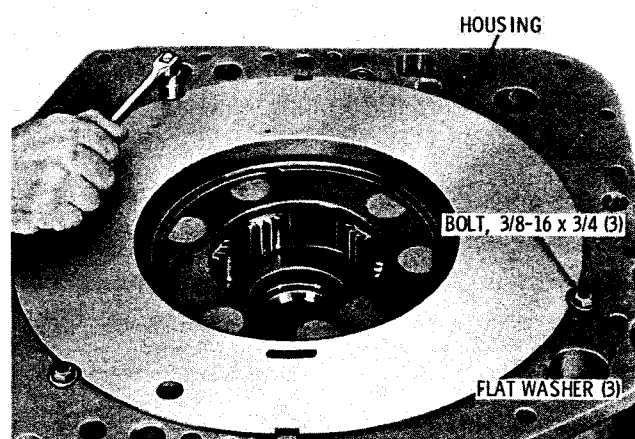

Fig. 7-30. Installing forward clutch piston housing bolts (5631 models)
(12) Install the piston housing, piston downward, aligning the milled cutouts at the front of the housing with three threaded holes in the transmission housing (fig. 7-30).
(13) Install three 3/8-16 x 3/4-inch bolts, with flat washers, to retain the forward clutch piston housing (fig. 7-30). Tighten the bolts evenly to 26 to 32 pound feet torque.